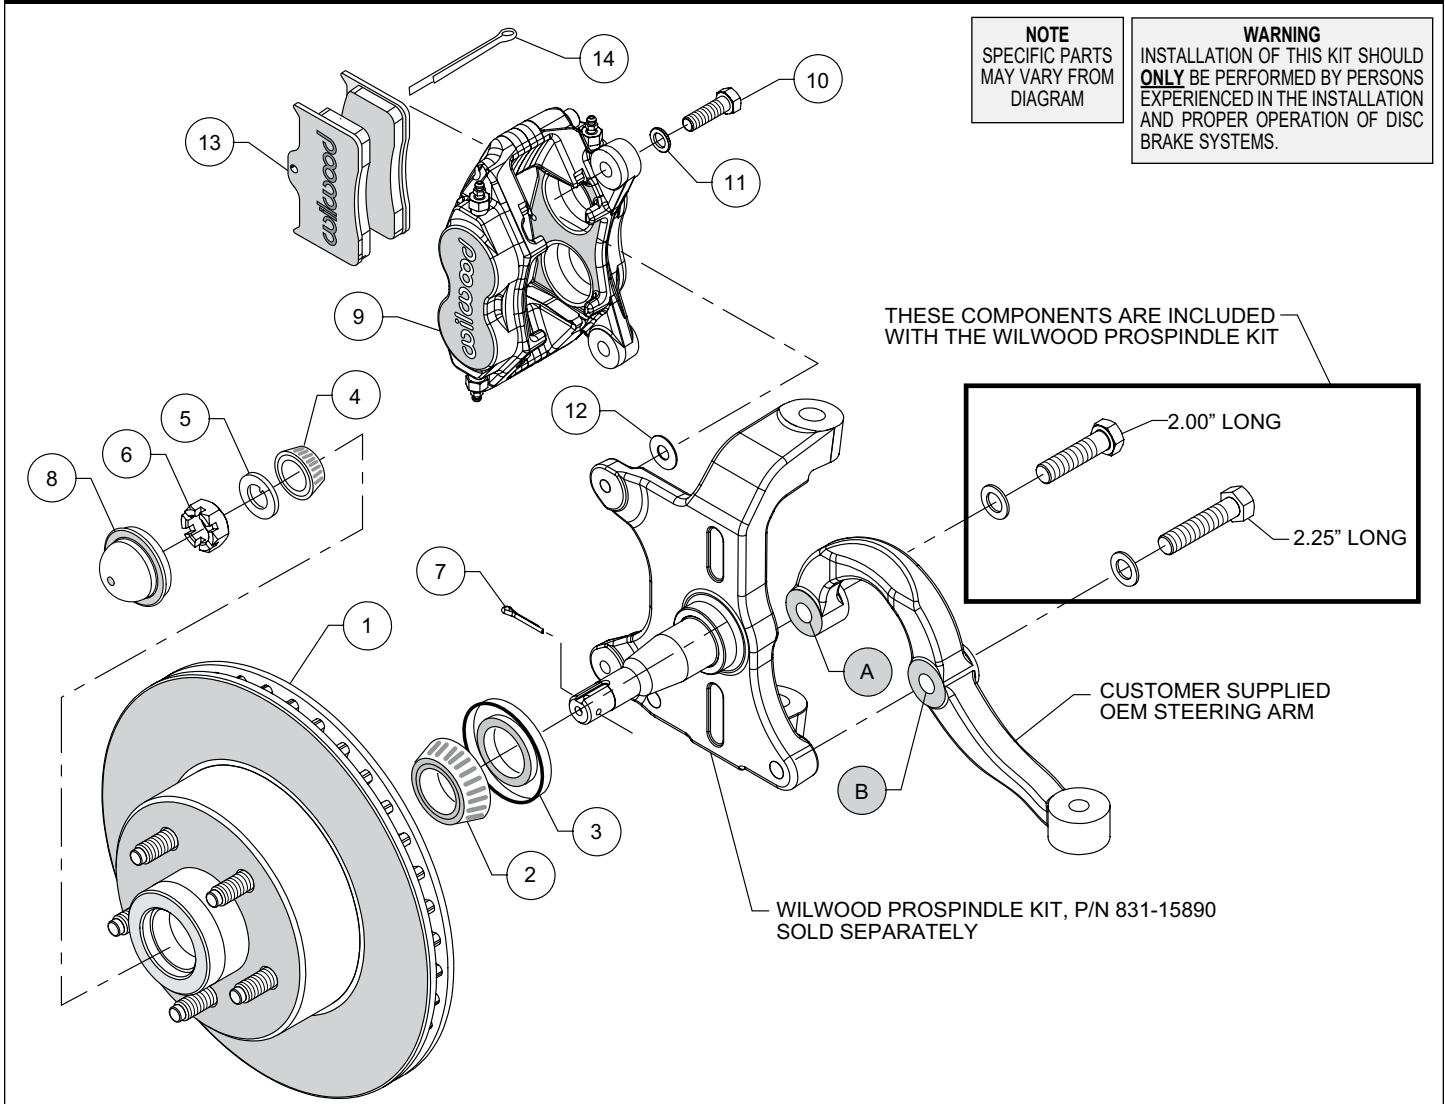

Figure 1. Typical Installation Configuration
NOTE: Numbers in parenthesis refer to the parts list and Figure 1 on the preceding pages.
•**NOTE:** Wilwood's AFX ProSpindle kit includes bolts and washers to mount the steering arm (customer supplied) to the spindle. The various bolts are identified by length in the following instructions and in Figure 1.
•Orient the steering arm, and identify the hole marked "A" as shown in Figure 1. Attach arm to spindle using 2.00" long bolt and washer (from ProSpindle kit), Figure 1. Finish attaching the steering arm through the hole marked "B", using 2.25" long bolt and washer (from ProSpindle kit), Figure 1. Temporarily tighten the mounting bolts. **NOTE:** The steering arm must fit squarely against the mounting points on the spindle. Inspect for interference from casting irregularities, machining ridges, burrs, etc. Remove bolts one at a time, apply red *Loctite*® 271 to threads, and torque to 77 ft-lb.
•Pack the large inner bearing cone (2) with high temperature disc brake bearing grease (available from your local auto parts store) and install into the backside of the hub/rotor (1), Photo 1.
•Install the grease seal (3) by pressing into the backside of the hub/rotor (1), flush with the end of the hub.
•Pack the small outer bearing cone (4) with high temperature disc brake bearing grease and install into the front side of the hub/rotor (1). Slide the hub/rotor onto the spindle. Secure using spindle washer (5) and spindle nut (6), Photo 2. Bearing adjustment: Tighten the nut while turning the hub. When there is a slight bind on the bearings, they are seated correctly. Back the nut off about 1/6 to 1/4 of a turn, or sufficiently to allow .001" to .007" end play. **WARNING:** Failure to back off adjusting nut could cause bearing to run hot and be damaged, which could cause the wheel to lock or come off. Install new cotter pin (7).
•Press the dust cap (8) into the hub/rotor (1). **NOTE:** Do not hammer center of cap. Install using outer flange only.
•Mount the caliper (9) onto the caliper mounting tabs on the spindle using bolts (10) and washers (11), as shown in Figure 1. Initially place one .035" thick shim (12) on each bolt between the caliper and the mounting tabs on the spindle, Figure 1 and Photo 3. Temporarily tighten the mounting bolts and view the hub/rotor (1) through the top opening of the caliper. The rotor should be centered in the caliper (9), Photo 4. If not, adjust by adding or subtracting shims (12) between the mounting tabs and the caliper. Always use the same amount of shims on each of the two mounting bolts. Once the caliper alignment is correct, remove the bolts one at a time, apply red *Loctite*® 271 to bolt threads, and torque to 40 ft-lb.
•Install the disc brake pads (13) into the caliper, with the friction material facing the hub/rotor (1), Photo 5. Secure in place using cotter pin (14), Photo 6.